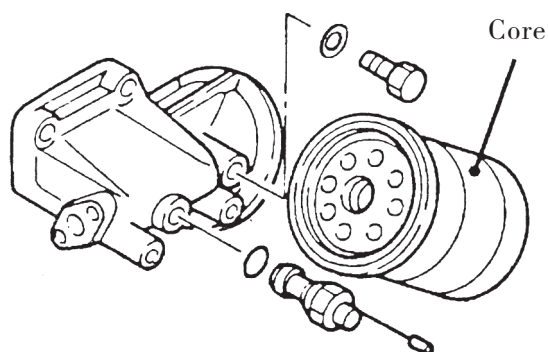

Fig. 1.7
1.5.3 For the machine oil filter, See Fig. 1.7.